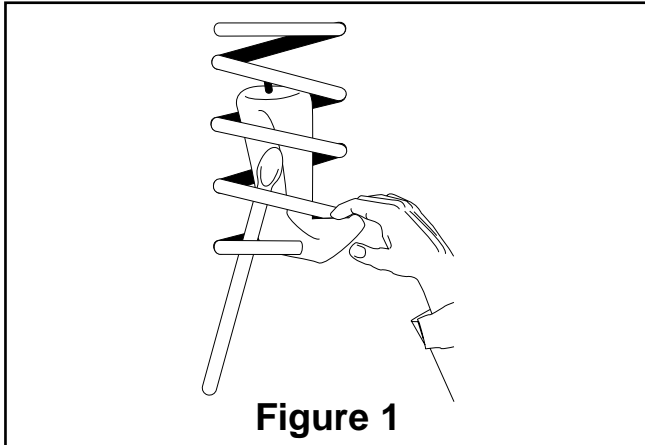

Figure 1
4. Insert the air cylinder into the coil with the valve stem at the top (Figure 1).
If the vehicle's headlights are shining into the trees or the vehicle is leaning to one side, then it is not level (fig. 1). Raise the air pressure to correct either of these problems and level the vehicle.